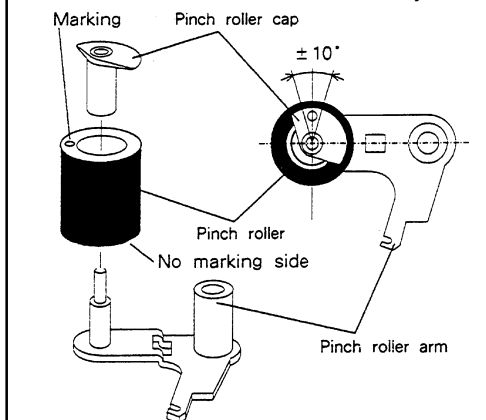

Fig. 2-8-2
- Remove the pinch roller cap from the pinch roller arm, and remove the pinch roller. (Refer to Fig. 2-8-2.)
- Assemble the pinch roller cap and the pinch roller to the pinch roller arm by exercising care with the installation angle of the pinch roller cap and the marking of the Pinch Roller. (Refer to Fig. 2-8-2.)